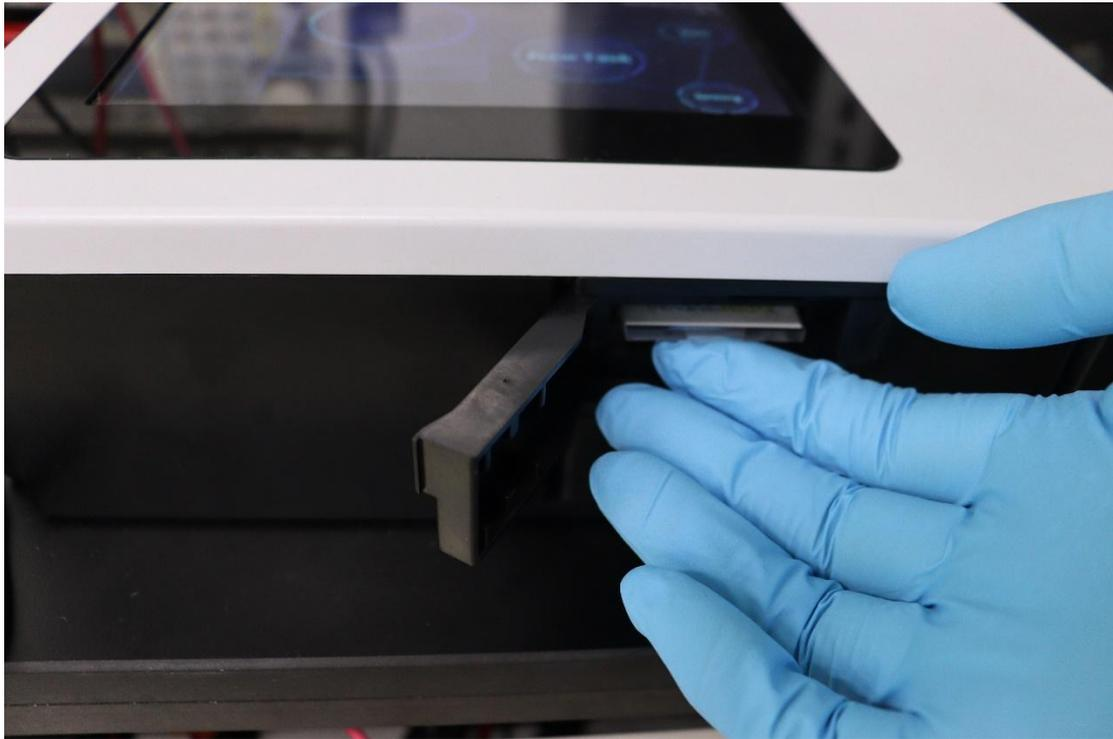
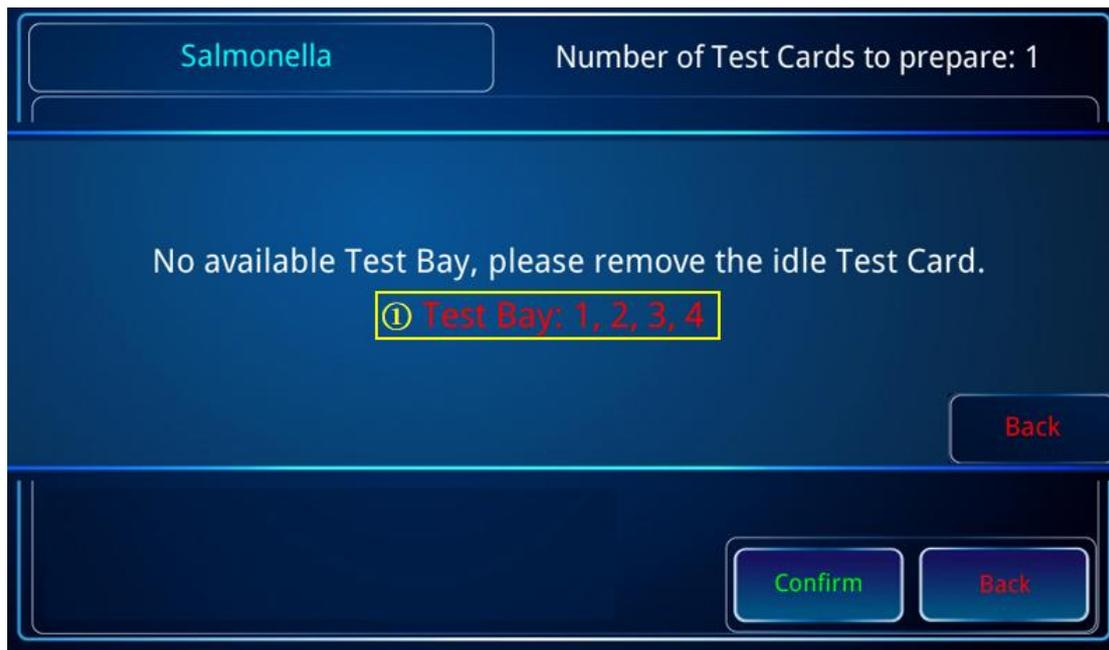

Figure 20 Remove the Test Card from the Test Bay
Figure 21 Dialog Box prompting “No available Test Bay”
After the testing is complete, please remove the Test Card from the Test Bay (Figure 20).
When the following situation occurs (Figure 20), this Dialog Box indicates that there are not enough available Test Bays to insert the Test Card required for a created Task. Follow the guidance shown in this Dialog Box and remove the Test Cards from the prompted Test Bays (Figure 21 ①).
Alternatively, you can click “Back” in Figure 21 without reinserting the Test Card if you do not wish to continue creating this Task. The screen will return to the Main Page.